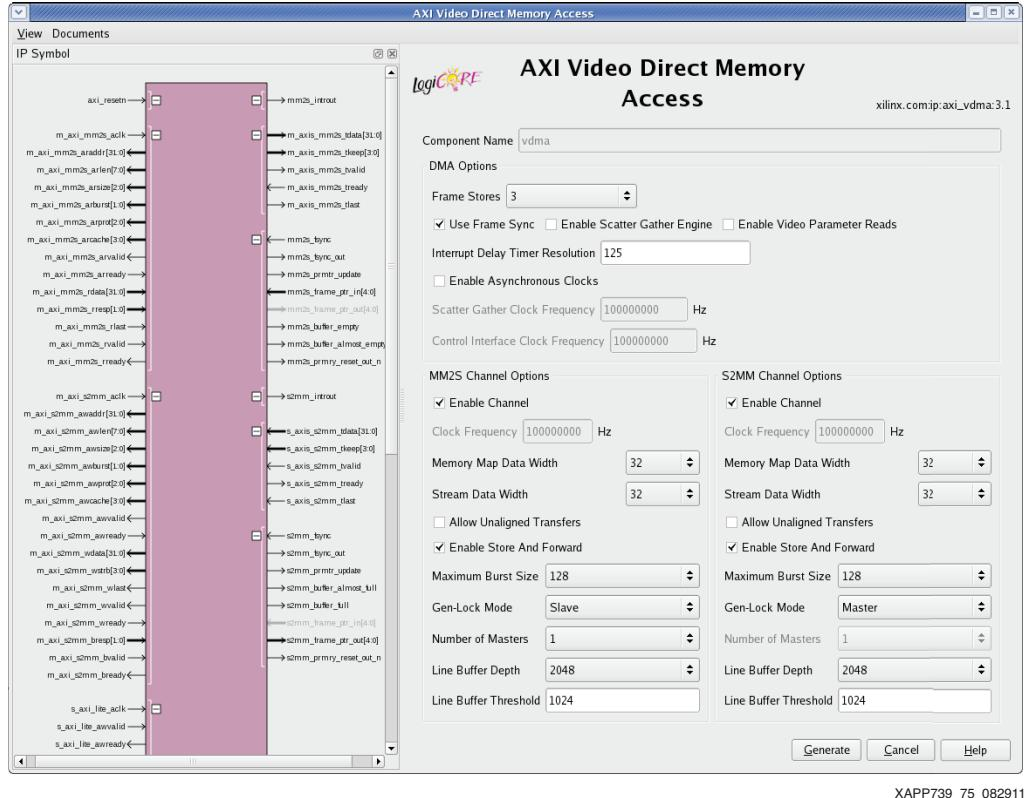

Figure 75: VDMA IP Configuration GUI
69. Make the settings shown in Figure 75 and as described in the list that follows: